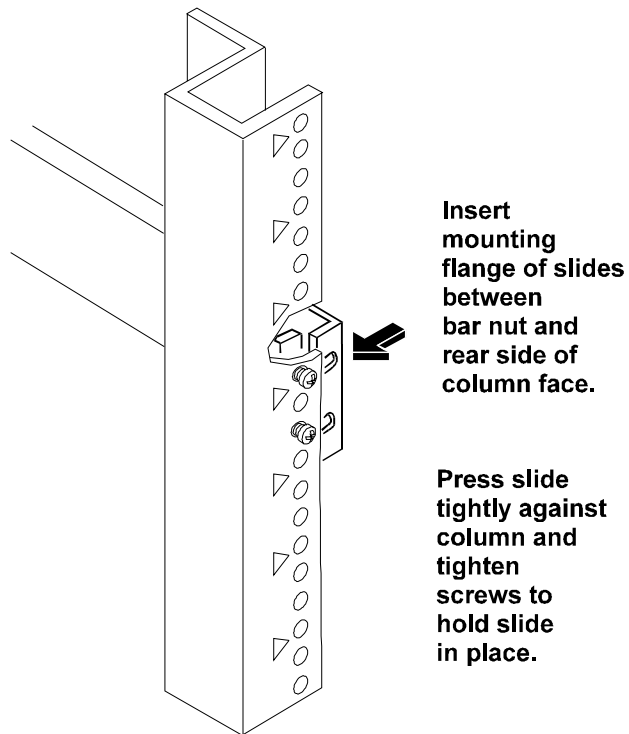

Figure A-6. Securing the Slide to the Front Column
3. Insert the slide fixed mounting flange between the column and bar nuts. Press the slide firmly against the front column (see Figure A-6).